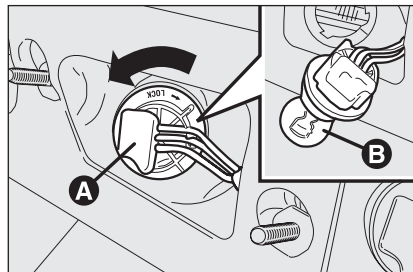
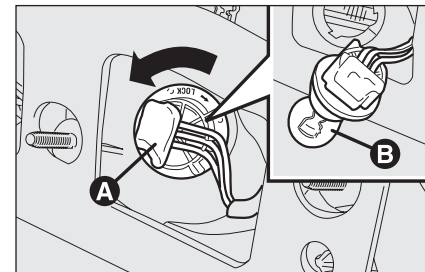

fig. 33
fig. 34
- turn the bulb holder **A-fig. 33** or **A-fig. 34** counterclockwise, remove the bulb **B** and replace it;